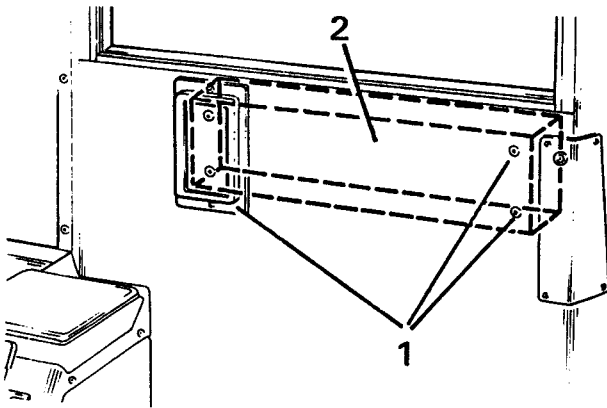

Figure 1
1. In the luggage compartment remove the cab licence frame and the two rubber grommets from the partition, to reveal the back rest retaining screws. See Figure 1.